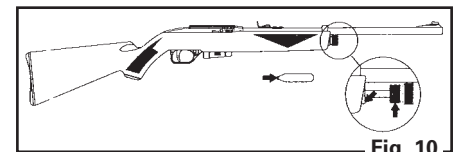

Fig. 10
- Putting a drop of Pellgunoil® on the tip of every CO2 cylinder will also help to maintain your airgun. (Fig. 10) DO NOT use petroleum distillate based oil or solvent and DO NOT over-oil as this can cause damage to your airgun.